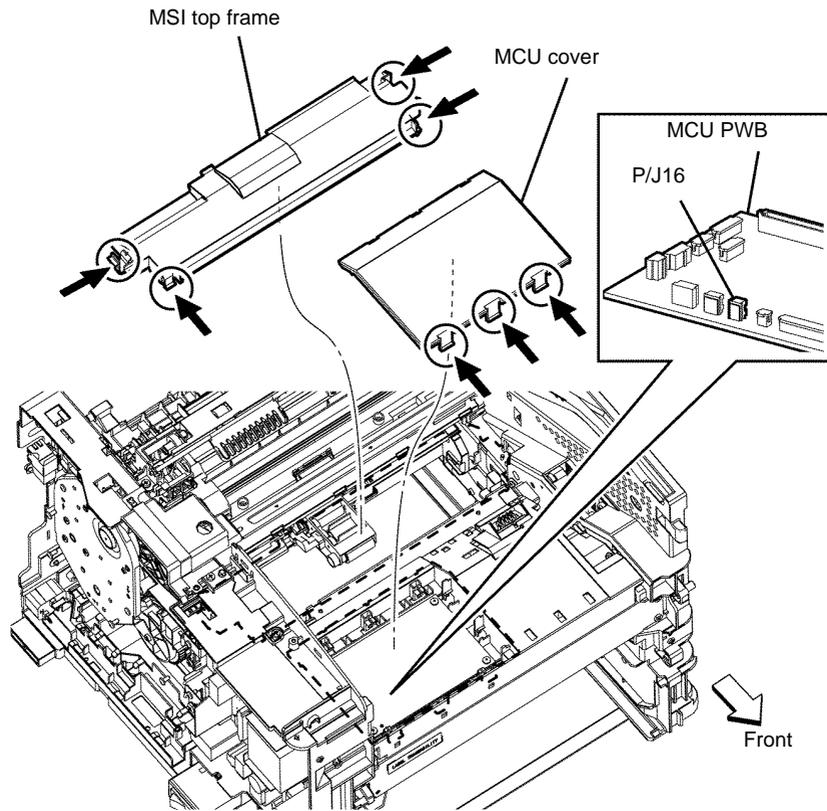

Figure 2 T24 inverter clutch harness assembly release
13. Release the four hooks that fix the MSI top frame, then remove the MSI top frame, Figure 2.
14. Remove the MCU cover by releasing the three hooks. Disengage P/J16 from the MCU PWB, then release the harness of the T24 inverter clutch assembly from the harness guide, Figure 2.